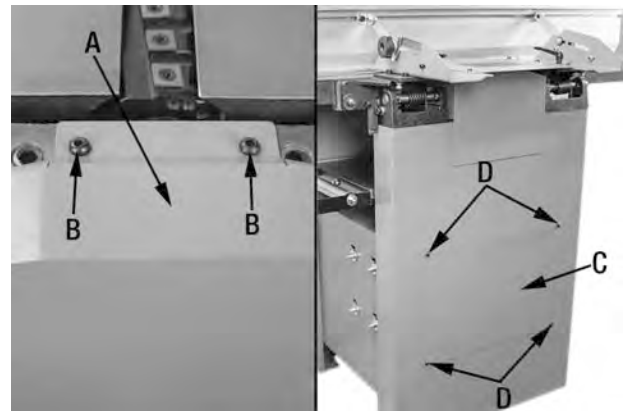

FIGURE 24
2. Remove the upper back access panel (A) Fig.24 by removing the two round head allen screws (B).
3. Remove the lower back access panel (C) by removing the four round head allen screws (D).